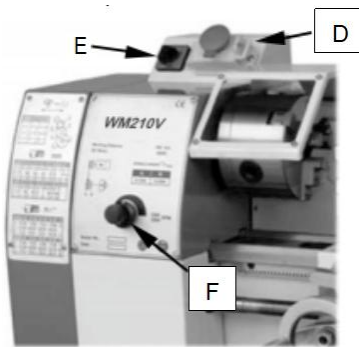

Fig.9
1. Emergency :Button ON.OFF Switch (D, Fig. 9)
2. Change-over Switch(E, Fig. 9)
3. Variable Speed Control Switch (F, Fig. 9)